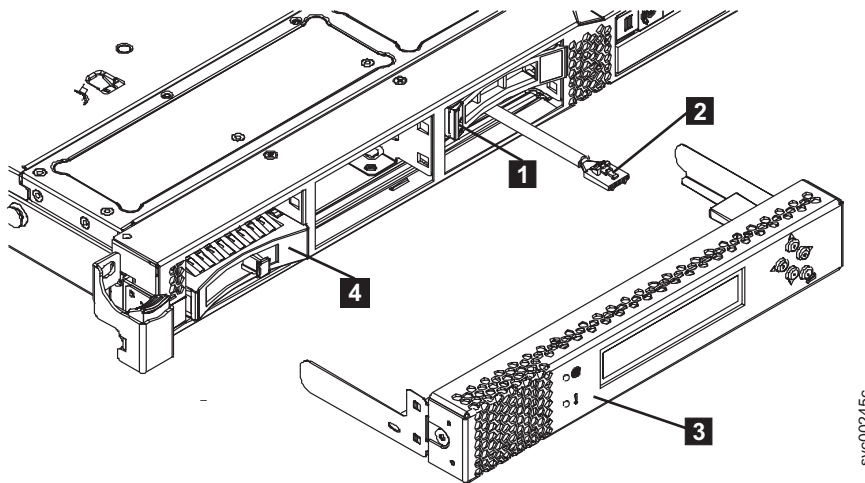

Figure 99. Boot drive location (SAN Volume Controller 2145-CF8 shown)
7. Slide the orange release latch (**1** in Figure 99) gently to the left to unlock the drive handle of the boot drive. For details on the boot drive location, see “IDs for SAN Volume Controller 2145-CG8 or 2145-CF8 disk drives” on page 118.